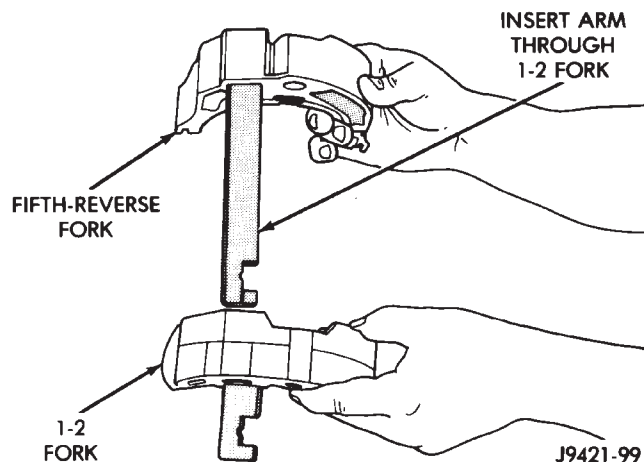

Fig. 92 Assembling 1-2 And Fifth-Reverse Shift Forks
(12) Assemble 1-2 and fifth reverse-shift forks (Fig. 92). Arm of fifth-reverse fork goes through slot in 1-2 fork.